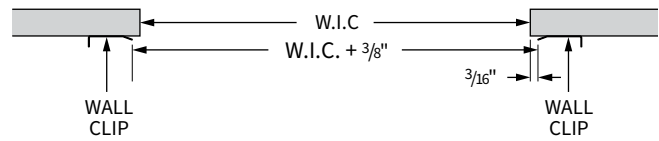

Figure 11: Wall Clip Position
1. Attach the wall clips to the wall flush with the edge of the opening, leaving the bottom 2 bolt holes open for the floor hardware (Page 15, Figure 11).